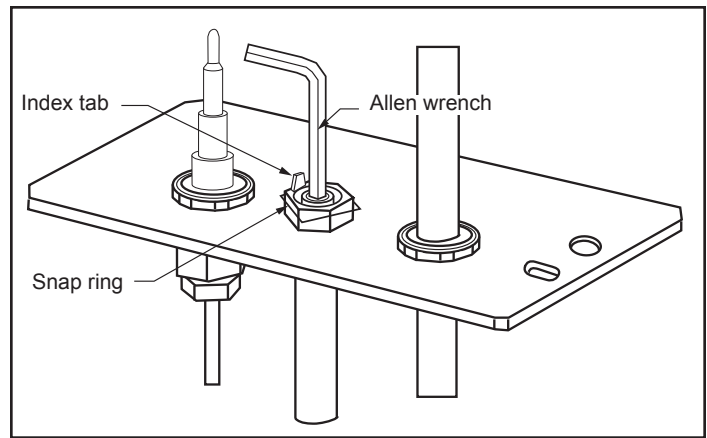

Figure 7.9 - Remove pilot orifice.
- Remove pilot orifice with Allen wrench. (Figure 7.9)